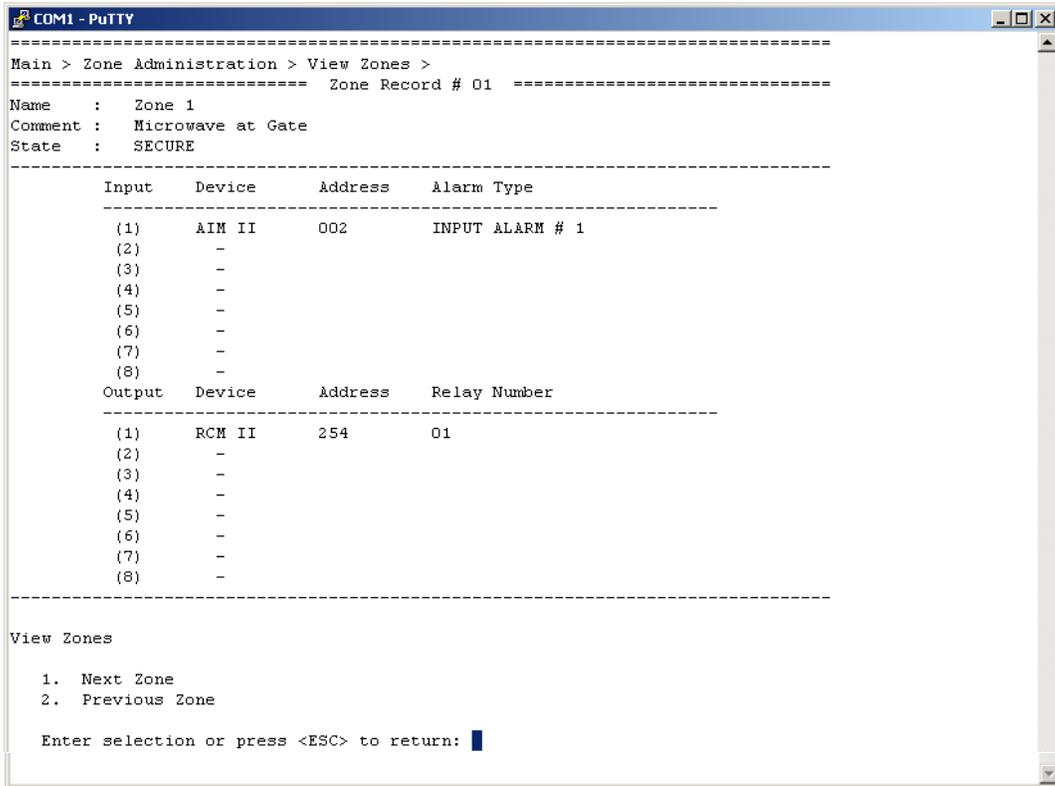

Figure 38 – View Zones Screen
Selecting command number 4 from the Zone Administration Menu will open the “View Zones” screen as shown in Figure 38. There will be two (2) command selections available: Next Zone and Previous Zone. Once a Zone